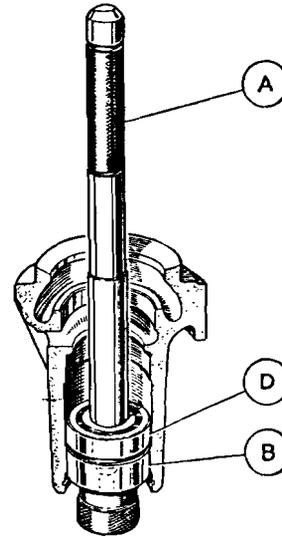

Fig. B.6
Position the dummy front bearing (B) in the pump body and screw the driver into the dummy bearing (Fig. B.6). The rear bearing is now aligned with the housing and may be gently tapped out.